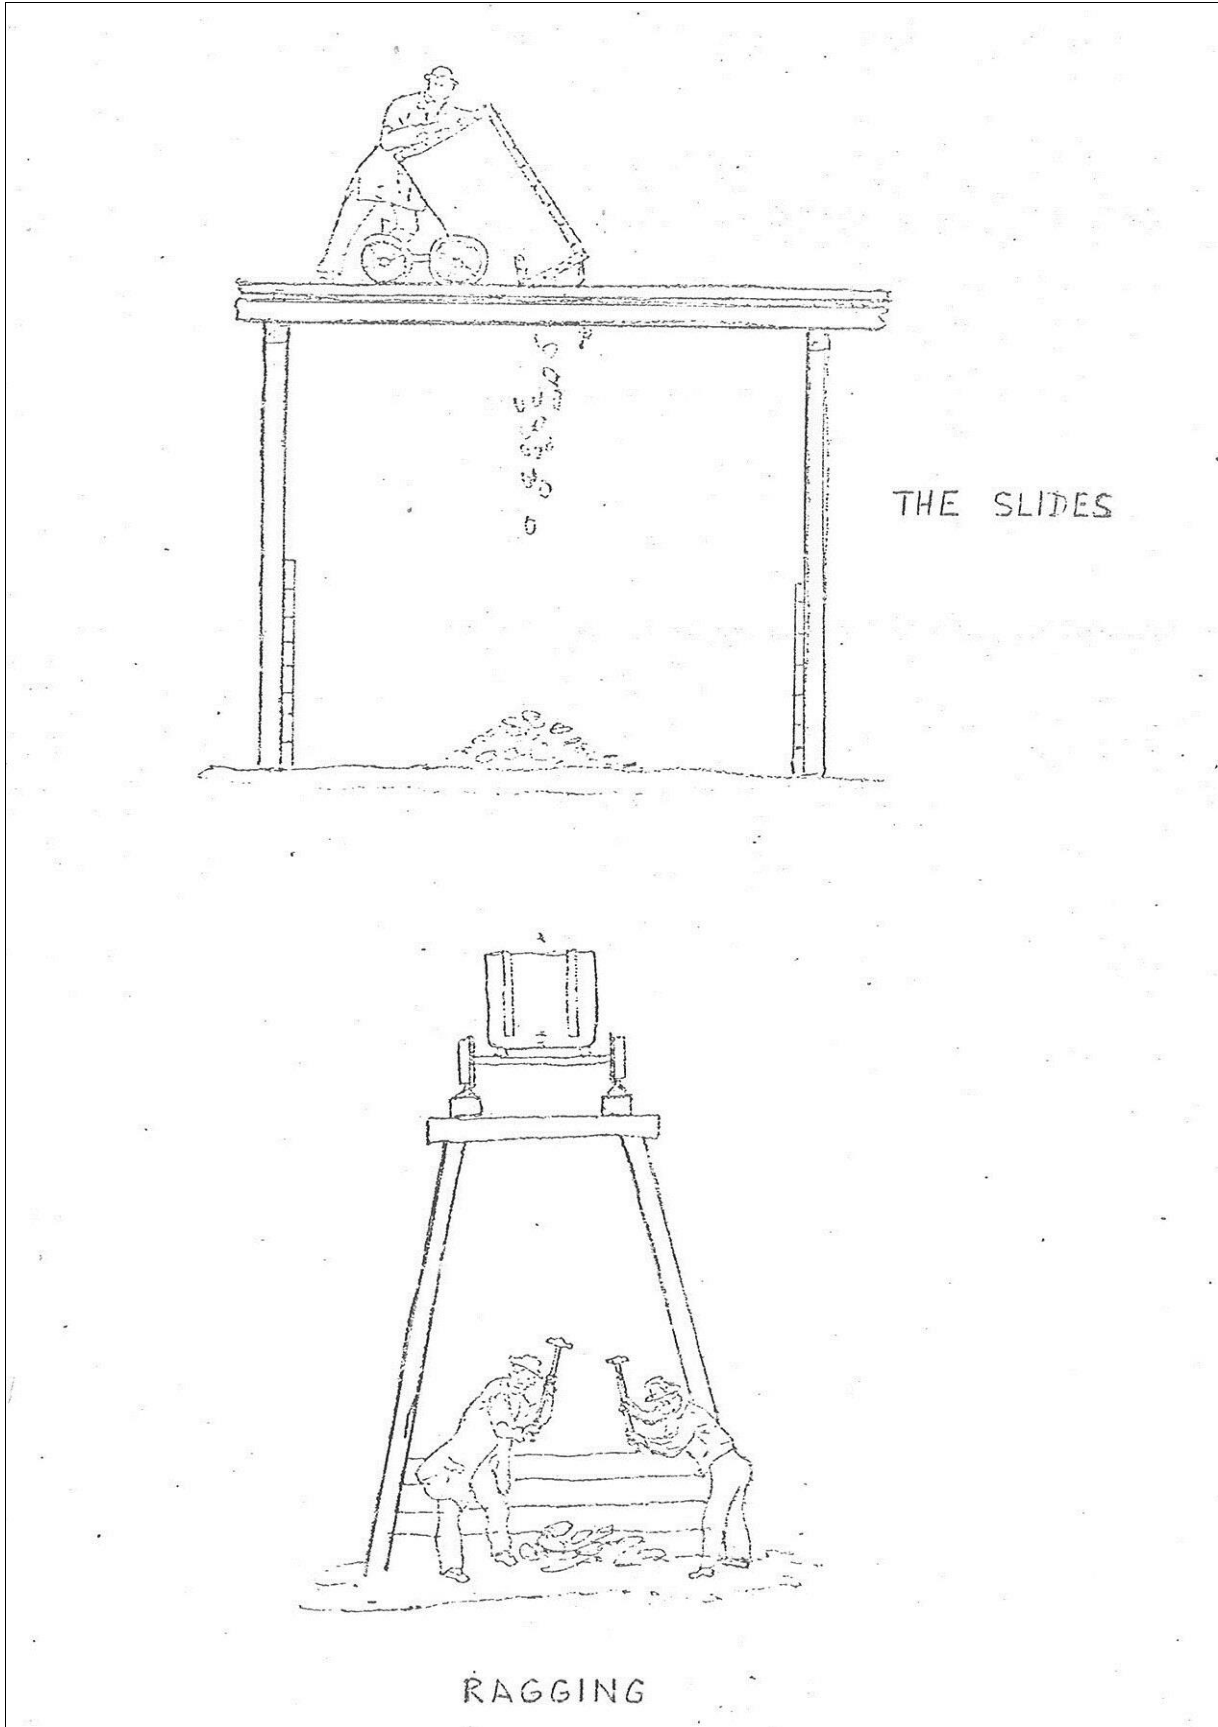

Figure 18
The Copper ore brought up from the levels is tipped from the skips into divisions below the elevated rail track called slides (see fig.18). Here men using 12 pound sledge hammers break up the large lumps, this is called ragging. The smaller pieces pass to the bal-maidens, who worked in the open sided sheds, they used three pound hammers to spall the ore, pieces of rock were also broken off with cobbing hammers at this time. Any small ore from the slides was riddled in a hand sieve or a revolving inclined sieve known as a hurdy gurdy rotated by means of a handle, the mesh being 3/4". The ore was then divided into three portions - (1) pure ore called prills, (2) second quality ore known as dradge - where the ore occurs in the rock as specks, (3) leavings or halvans.